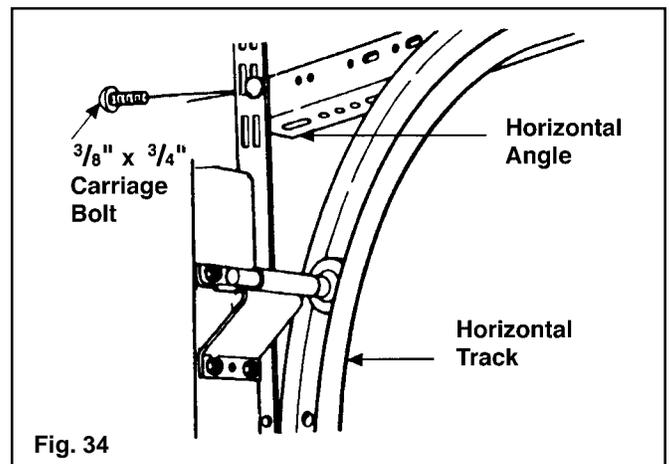

Fig. 34
**Step 6:** Place the track over the roller in the top bracket. Attach the curved end of the horizontal track to the flag bracket with two  $\frac{1}{4}$ " x  $\frac{5}{8}$ " track bolts and  $\frac{1}{4}$ " flange nuts so that the heads of the screws are on the inside of the track. Attach the end of the horizontal angle to the top of the flag bracket with a  $\frac{3}{8}$ " x  $\frac{3}{4}$ " carriage bolt and  $\frac{3}{8}$ " hex nut. The horizontal and vertical track must join together to form a continuous channel for the rollers. (FIG. 34)